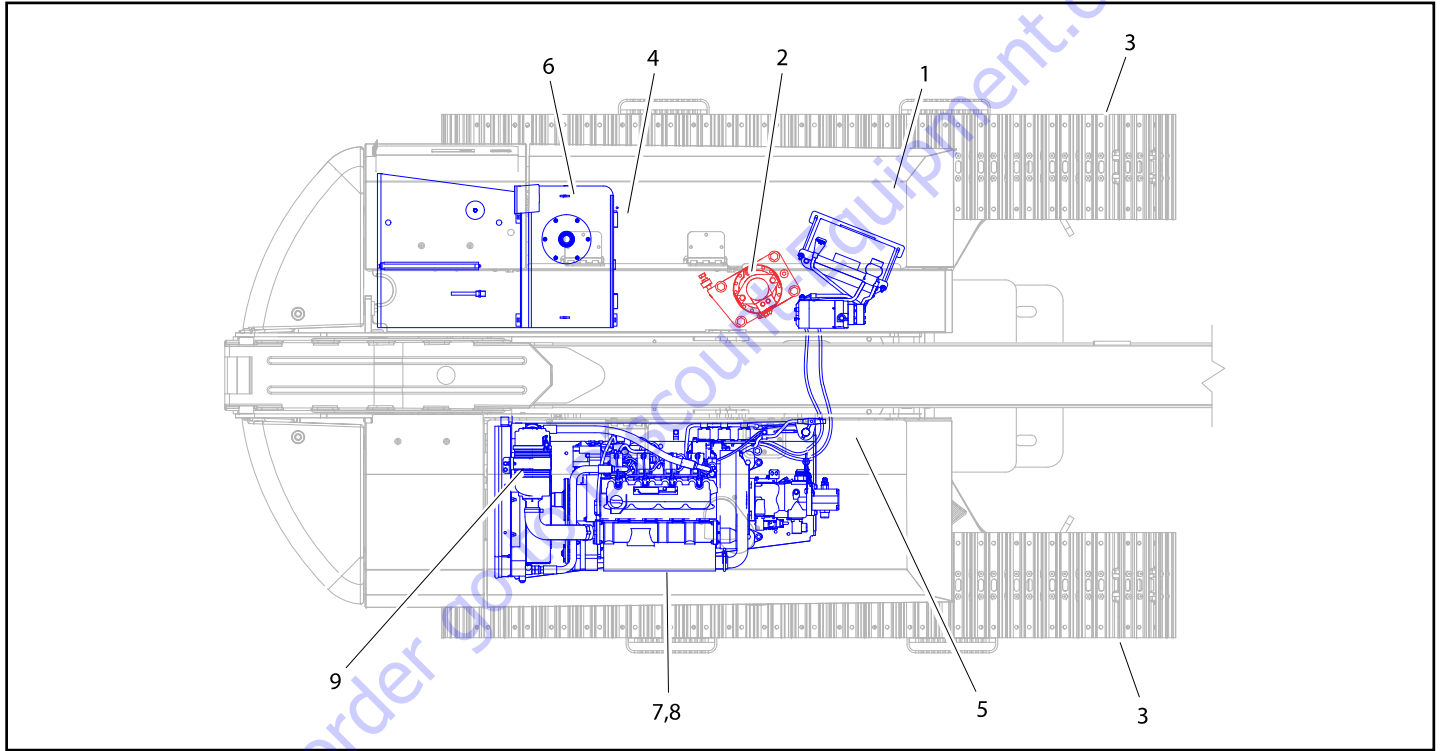

Figure 7-4. Operator Maintenance and Lubrication Diagram
**NOTE:** The following numbers correspond to those in Figure 7-4., Operator Maintenance and Lubrication Diagram.